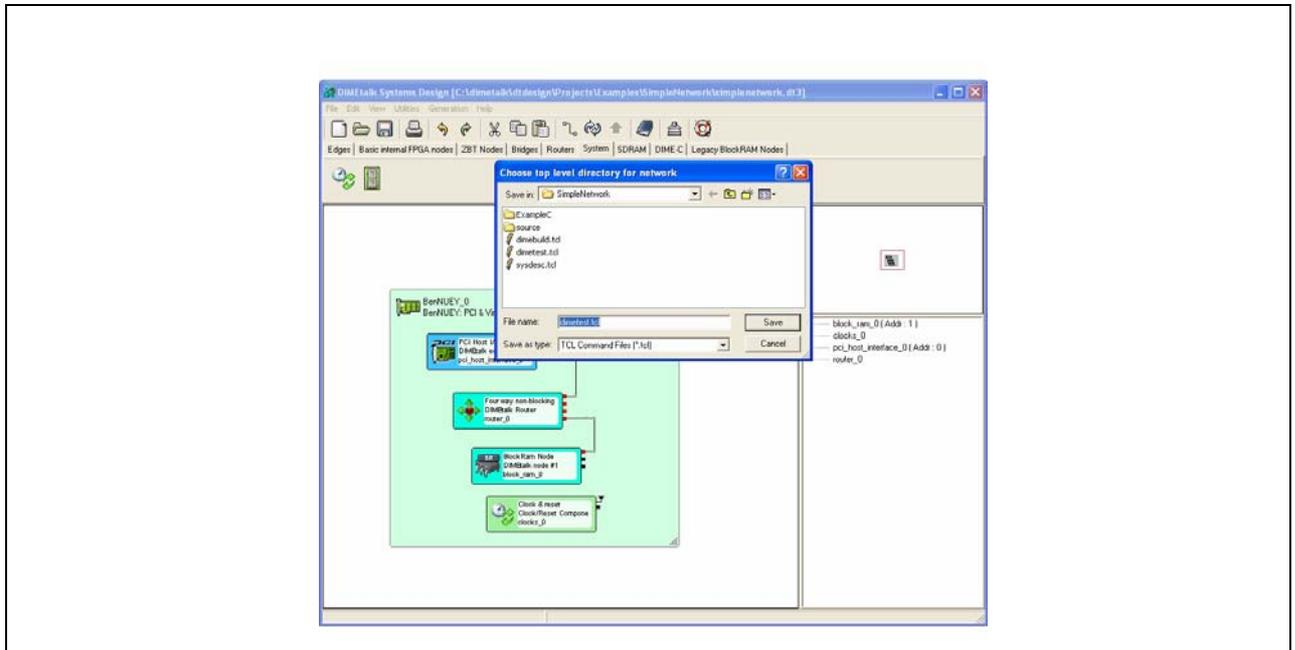

Figure 17: Compilation Button
12. The final stage is to compile the VHDL for the network. First press the Generate VHDL button (right), then click on **'Save'** in the dialog box to create all the appropriate VHDL files as shown in Figure 17.